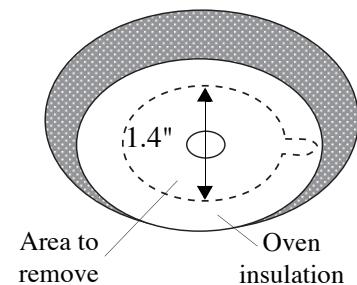

Figure 3.4. Cutting away the oven insulation
8. From the top of the GC, cut away about half of the lower (hard) oven insulation in the bottom of the detector port. Cut out the diameter shown in Figure 3.4. Remove this insulation to allow the detector to sit properly in the detector port. Do not remove the entire lower level of insulation. Leave at least half of the lower insulation in place.